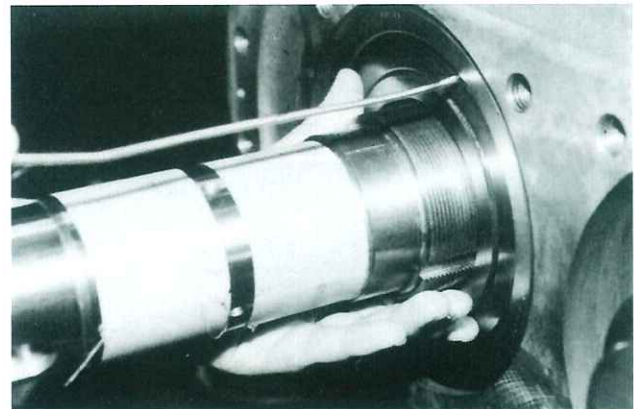

Fig. 72 Removing Thrust Bearing
Insert a 1-2 mm dia. wire with a flat bent point into the clearance between the outer race and the ball retainer, hook the ball retainer and pull out the bearing (ref. Fig. 72).
1) Straighten the claws of the lock washers on the bearing glands (43) securing the periphery of the bearing and remove the hex. head socket bolts (81) and bearing glands.
3) Pull out the bearings (Fig. 72).